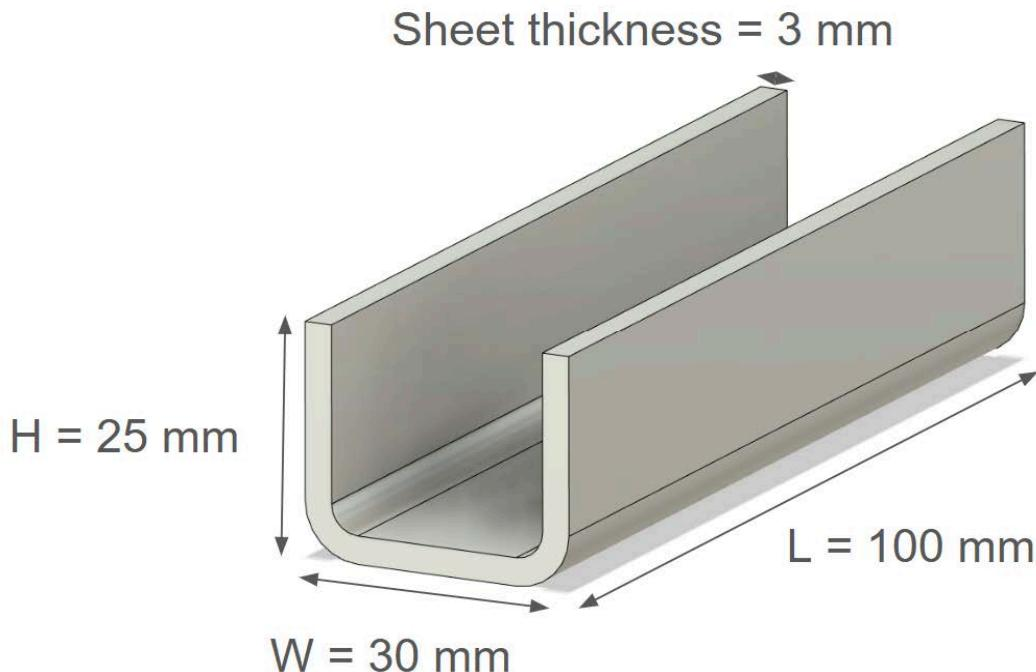

Figure 4. Bond arm made with sheet metal stamping and bending showing the desired part dimensions.
b) **Sheet metal stamping and bending.** You would like to create a bond arm with a U-shaped profile with dimensions shown in Fig. 4 using sheet metal stamping and bending.
i) Using AL-5052 (properties in Appendix 1), what is the **shearing force** required for the stamping machine to create **one sheet** that is to be bent to the beam shown in Fig. 4?
alloy (Ti-6Al-4V) which has a higher Young's modulus. This way, you are able to reduce the thickness to 2 mm without reducing the bending stiffness of the beam. **Name and explain at least 2 issues** you might encounter in creating a beam with the outer dimensions shown in Fig. 4 using the same stamping and bending setup?
i) Estimate the **cooling time** to die-cast a part following the dimensions shown in Fig. 4. Assume a coefficient of $C = 80 \text{ s/mm}$.
i) **Geometry.** Would you keep a similar geometry to the aluminum bond arm, such as the H-beam (Fig. 3) or U-beam (Fig. 4)? Consider the shape and construction of carbon fiber sheets where they are commonly used (sports equipment and aerospace) and **sketch a suitable geometry and justify the design.** 4 pts, 2 pts for sketch, 2 pts for valid justification.